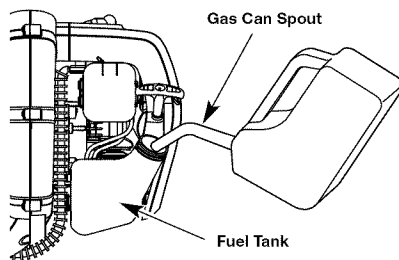

Fig. 8
2. Place the gas container's spout into the fill hole on the fuel tank (Fig. 8) and fill the tank.